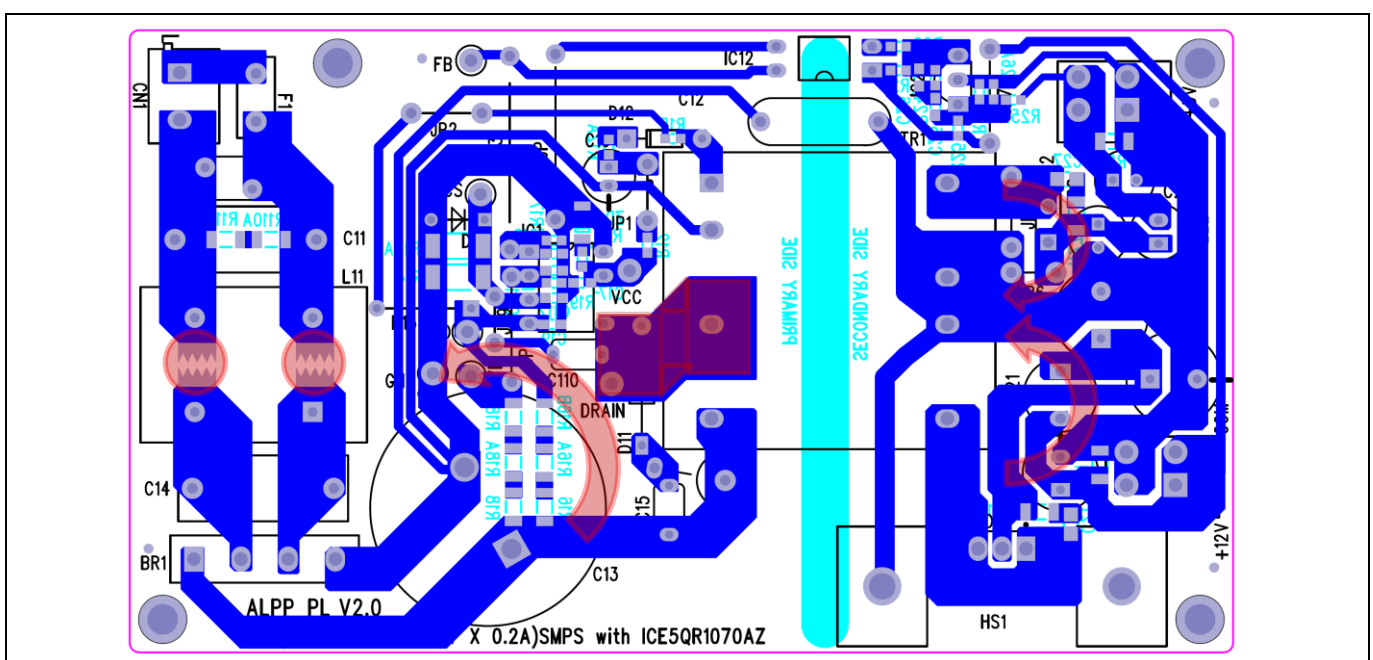

Figure 4 PCB layout tips
- The power loop needs to be as small as possible (see Figure 4). There are three power loops in the reference design; one from the primary side and two from the secondary side. For the primary side, it starts from the bulk capacitor (C13) positive to the bulk capacitor negative. The power loop components include C13, the main primary transformer winding (pin 6 and pin 4 of TR1), the drain pin and CS pin of the CoolSET™ IC11 and CS resistors R14 and R14A. For the secondary side, the 12 V output starts from the secondary transformer windings (pin 7 and 9 of TR1), output diode D21 and output capacitors C22 and C23, while the 5 V output starts from the secondary transformer windings (pins 10 and 12 of TR1), output diode D22 and output capacitor C28.
- Separating the HV components and LV components e.g. clamper circuit (D11, R11 and C15) at the lower part of the PCB (refer to Figure 4) and the other LV components at the top part of the PCB can reduce the spark-over chance of the high energy surge during ESD or a lightning surge test.